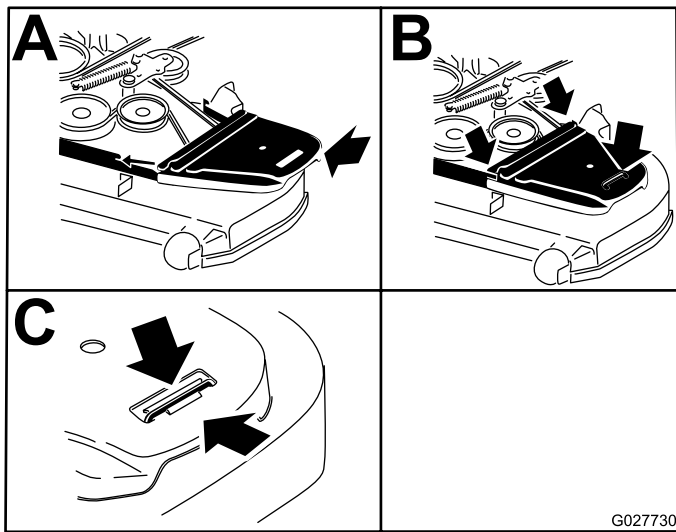

Figure 74
12. Install the belt covers (Figure 74).